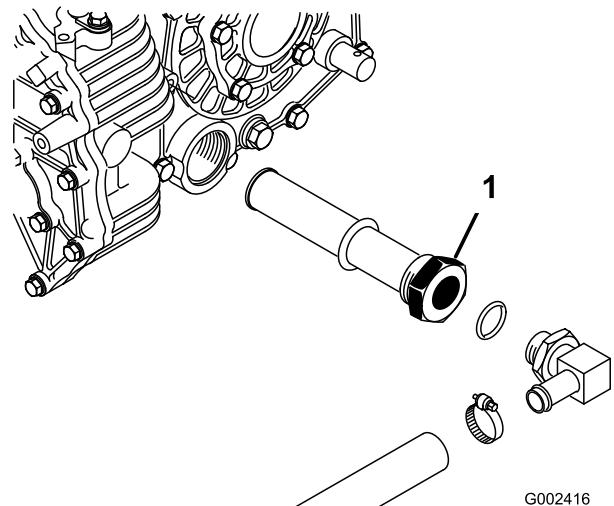

Figure 65
- Note the orientation of the hydraulic hose and 90 degree fitting connected to the strainer on the side of the reservoir (Figure 65). Remove the hydraulic hose and 90 degree fitting.